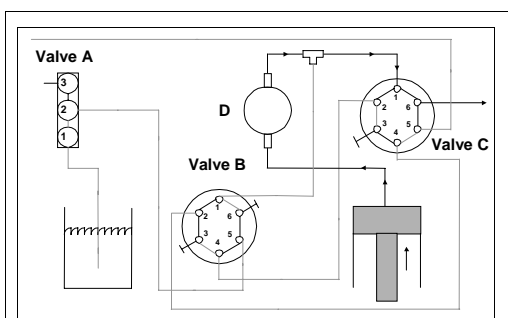

Figure 4.34: TLD Delivery (Gradient Refill/Pre-Pressurize)
Figure 4.34 shows the flow schematic of the TLD delivering to the downstream devices. Valve C is connected on ports 1 and 6. As the syringe piston moves forward, fluid is pushed through the line connecting the syringe to the pressure transducer (D) and port 1 of valve C. The fluid moves out port 6.